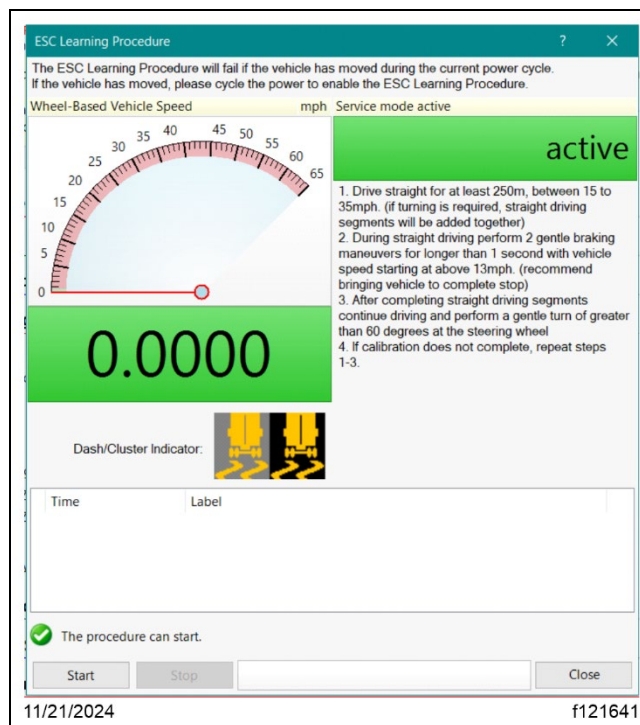

Fig. 60, ESC Calibration in DiagnosticLink
18. The ABS ECU is now in the ESC calibration mode. Use either WABCO TOOLBOX or DiagnosticLink to perform the ESC Calibration procedure. Complete the driving portion of the End of Line (EOL) procedure. After approximately 100 yards of straight-line driving and then a 90- to 180-degree turn is recorded by the ABS ECU, the stability lamp on the dash will turn off. See Fig. 60.